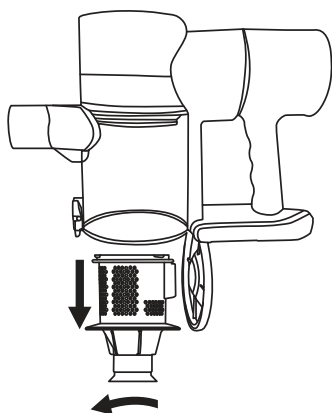
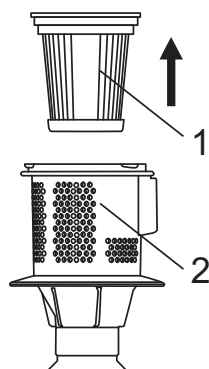

Figure 5
Figure 6
2. Open the bottom of the dust cup and turn it anticlockwise to take out the filter screen, as shown in Figure 5 ; Remove the Hepa (1) from the filter screen for cleaning or replacement (note that only the washable HPA can be washed with water) ,clean the filter screen (2), and dry it after washing before it can be loaded into the dust cup and continue to use Figure 6.